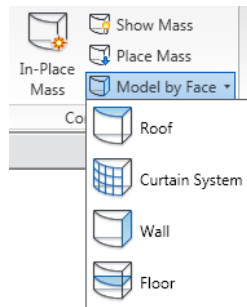

Figure 217: Model by Face drop-down button in Revit Architecture 2010.
A drop-down button expands to show two or more commands in a drop-down menu. Each sub-command can have its own large icon (see Figure 217 below.)
- The top label **SHOULD** sufficiently describe the contents of the drop-down list. For example, in Figure 217, Roof, Curtain System, Wall and Floor are all ways of modeling by face.)